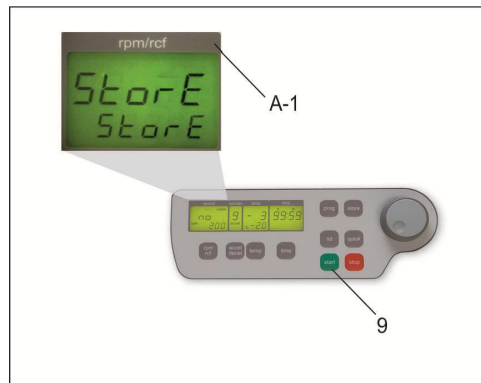

Figure 3
- All changed settings must be confirmed by the key „start“ (9). As an optical confirmation appears the word „store“ in the display „rpm/rcf“ (A-1) - Only then the pre-selections are valid! (see figure 3)